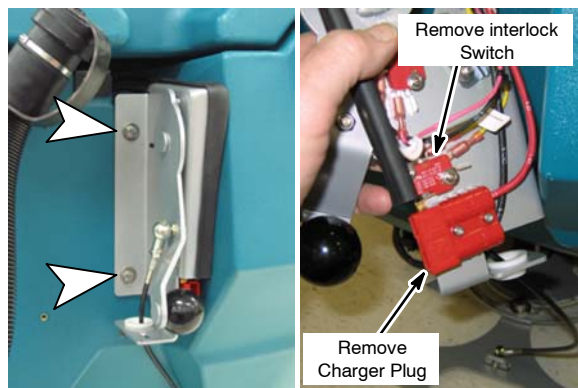

Fig. 1
1. Lower the squeegee lift lever to relieve tension on the lift cable, then remove the squeegee lift bracket. Remove the red charger plug assembly and charger interlock switch from the bracket. Discard the interlock switch (Figure 1).